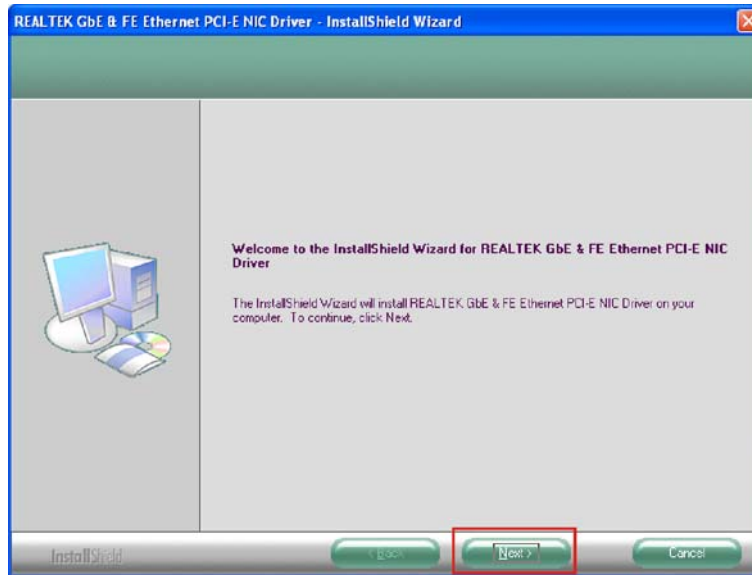

Figure 7-19: LAN Driver Welcome Screen
Step 5: The **Welcome** screen in Figure 7-19 appears.